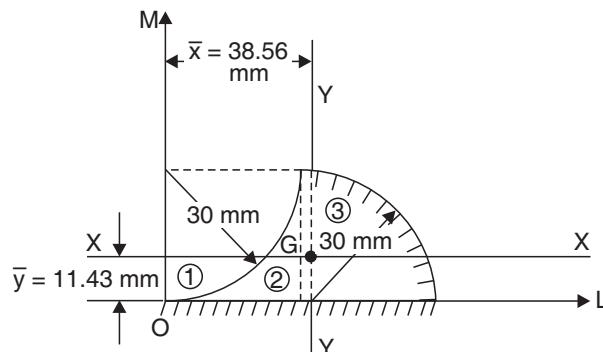

Fig. 8.31
**Example 8.11.** (i) With reference to the shaded area of Fig. 8.31 locate the centroid w.r.t. OL and OM.